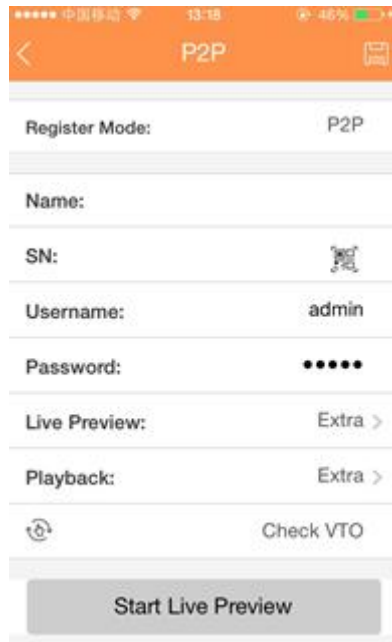

Figure 2-18
3. Tap Device manager button, you can use several modes (P2P/DDNS/IP and etc.) to add the device. Click  to save current setup. Tap Start Live preview to view all-channel video from the connected device. See Figure 2-18.